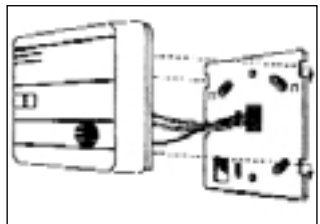

FIGURE 3
10. Align tabs on back of base with slots on side of mounting plate. Slide base down to lock into position. See Figure 3.